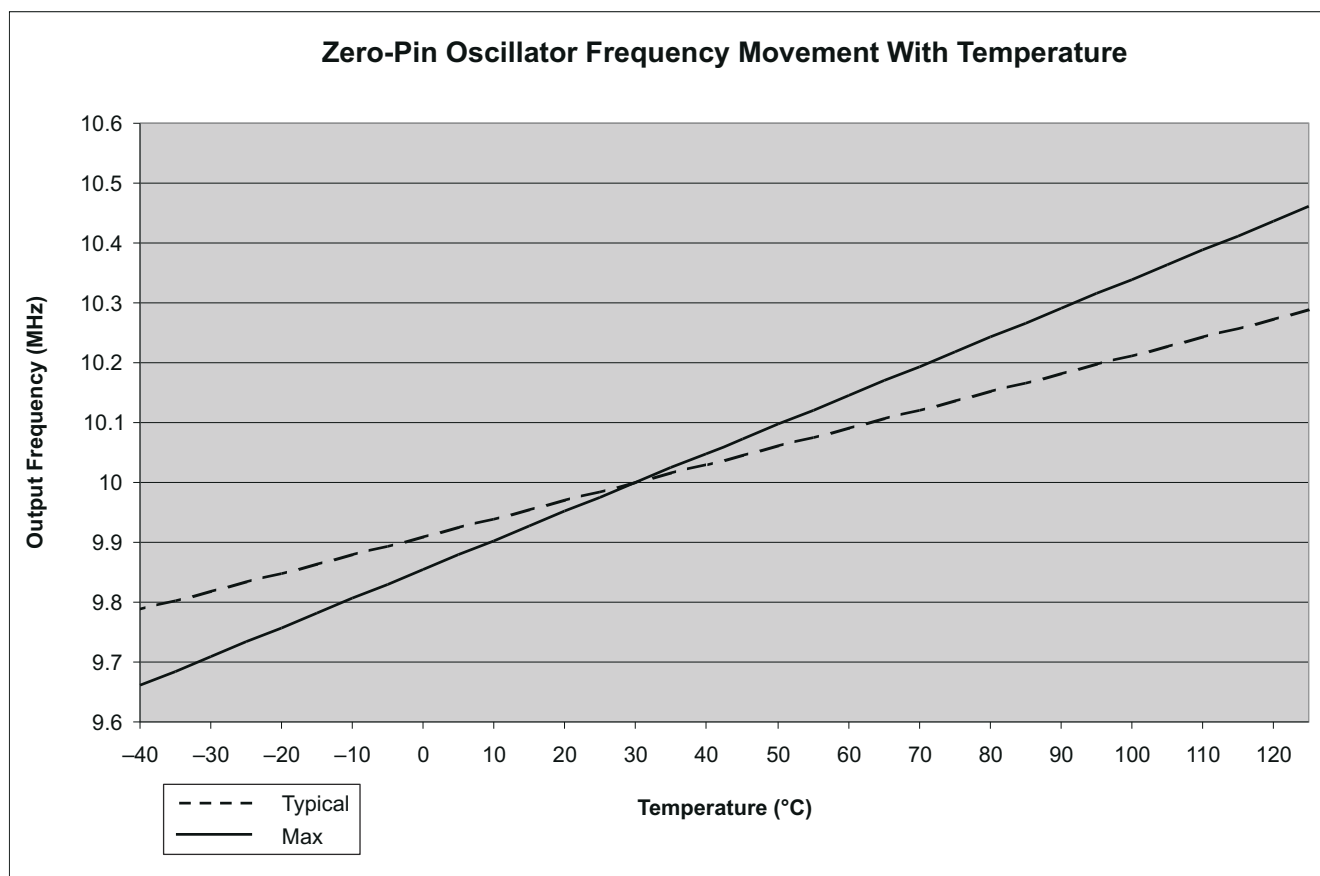

Figure 7-9. Zero-Pin Oscillator Frequency Movement With Temperature
- (1) Oscillator frequency will vary over temperature, see Figure 7-9. To compensate for oscillator temperature drift, see the Oscillator Compensation Guide and C2000Ware for C2000 MCUs.
- (2) Frequency range is ensured only when VREG is enabled, V_{REGENZ} = V_{SS}.
- (3) Output frequency of the internal oscillators follows the direction of both the temperature gradient and voltage (V_{DD}) gradient. For example: